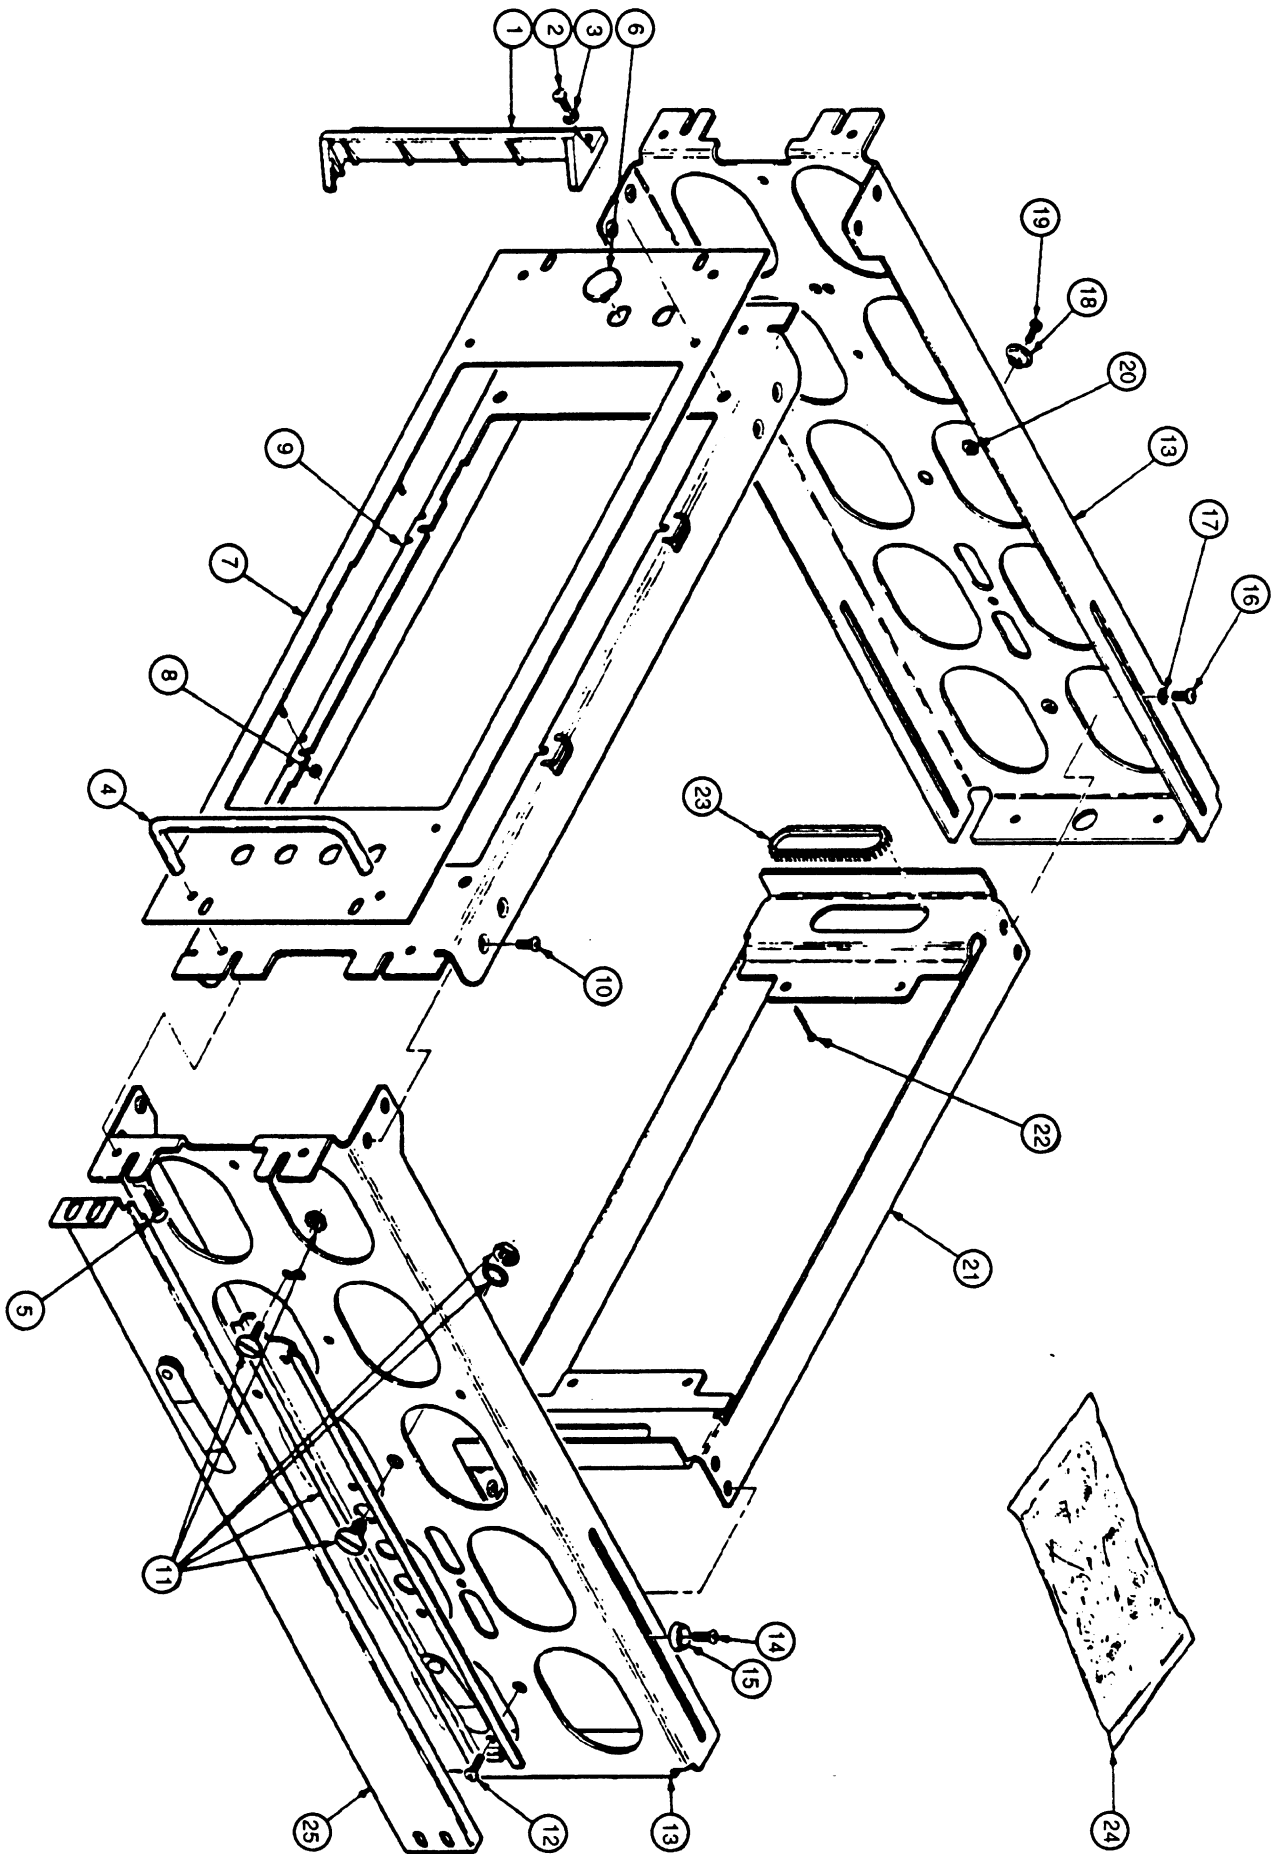

Fig. 11-7. Exploded View
*The numbers appearing in parentheses refer to the numbers shown in the mechanical parts exploded view, Fig. 11-7, at the rear of this Instruction Sheet.*
6. On the rack-adapter chassis, loosen (but don't remove) the four posidrive-head screws (16) with lock washers (17) and the four torx-head screws (14) with nylon washers (15) holding the rear cabinet support (21) in position. Slide the support to the rear of the rack adapter.
8. Place the instrument's rear cover on top of the rear cabinet support (21). Orient the instrument's rear cover so that the feet are toward the bottom.